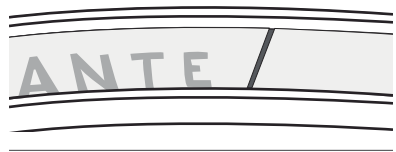

Figure 8. Do not overlap the ends of rim tape.
4. Cut the tape so that it does not overlap itself (Figure 8). If there is tape overlap, the effective diameter of the rim will increase, so installing the tire will be more difficult.